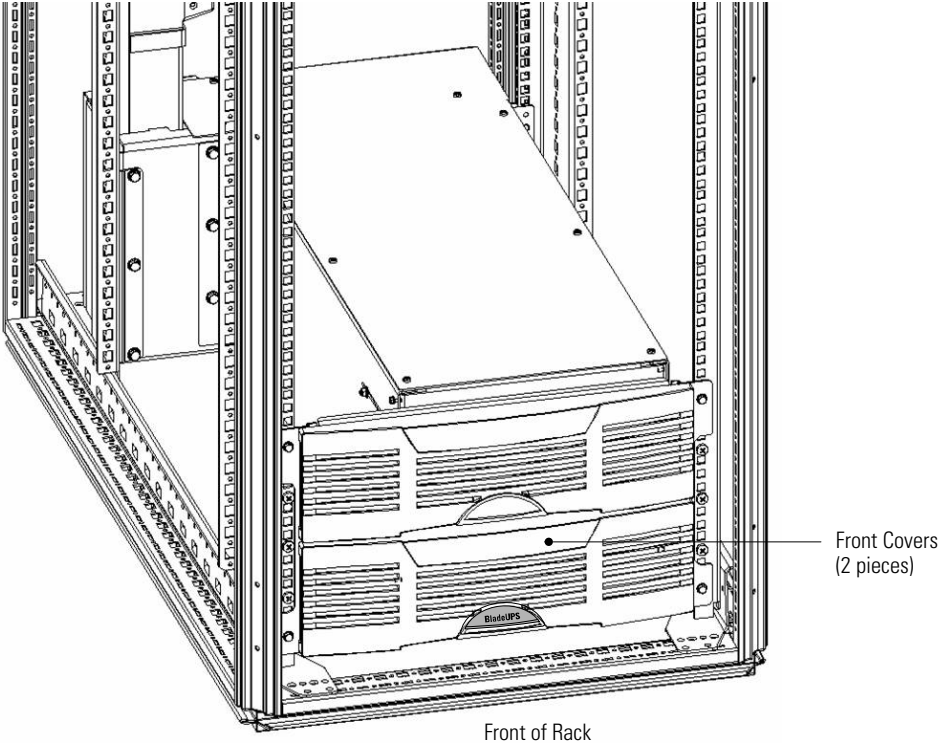

Figure 11. Front Cover Installation
23. Snap the two front covers into place, as shown in Figure 11.